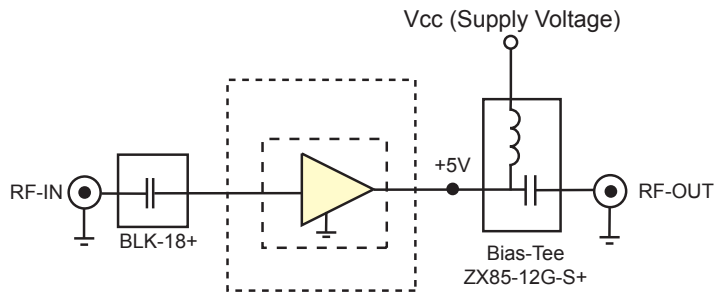

Fig 1. Block Diagram of Test Circuit used for Die characterization.
1. Measured on Mini-Circuits Die Characterization test board. See Characterization Test Circuit (Fig. 1)